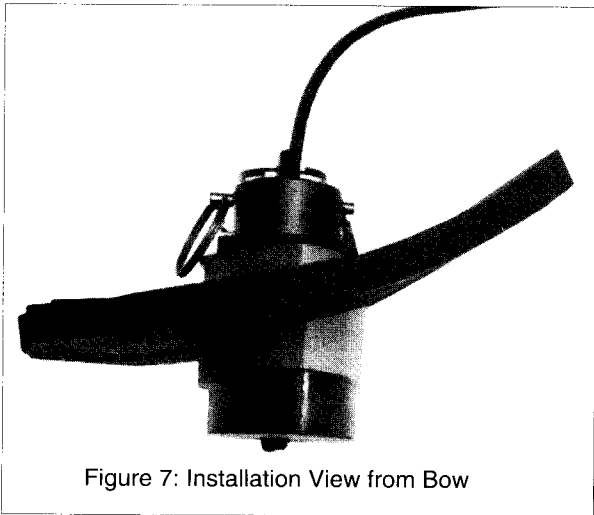

Figure 7: Installation View from Bow
- Be sure to orient the block properly on the band saw so that the angle you cut is matched to the intended side of the hull, and not the mirror image (ref. **Figure 7**).
4. Apply a 1.5mm (1/16") thick layer of sealant on the surfaces of the transducer and fairing block (if used) which mate with each other and to the hull, and bronze housing (ref. **Figure 7 & 8**). A thin layer should also be applied up the sidewalls of the stem to a height of 6mm (1/4") greater than the hull plus fairing block thickness. This will ensure there is sealant material in the threads to seal them and hold the housing nut securely in place.